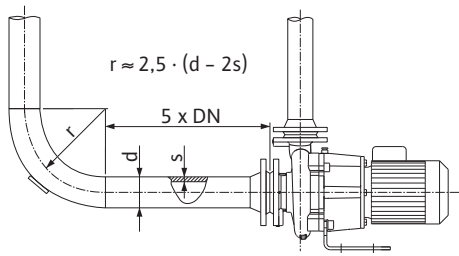
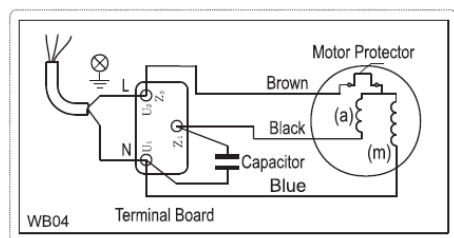

Fig. 4: Settling section upstream and downstream of the pump
Fig. 5: Alternating current
- The mains connection depends on the motor power P_2 , mains voltage and activation type. Refer to the following table and Fig. 4 and Fig. 5 for the required connection of the connecting bridges in the terminal box.